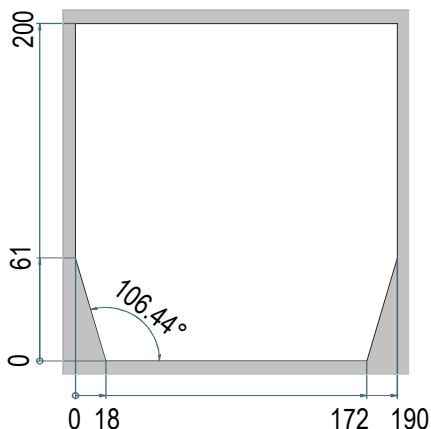
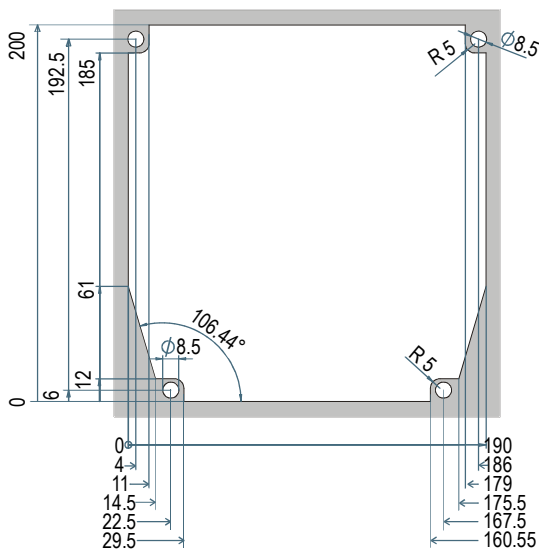

Fig. 4
Fig. 5
1. Make a hole in the panel with dimensions described in Fig. 4 (simplified) or Fig. 5 (completed)